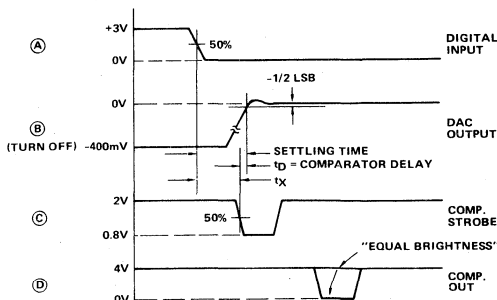

Figure 3B
As shown in Figure 3B, settling time equals t_X plus the comparator delay ($t_D = 15$ ns). To measure t_X ,
- Adjust the V_{LSB} supply for 50 percent triggering at COMP. OUT. This is indicated by traces of equal brightness on the oscilloscope display as shown in Figure 3B. Note DVM reading.
- Switch the LSB to Pulse (P).
- Measure t_X from scope as shown in Figure 3B. Settling time equals $t_X + t_D$, i.e. $t_X + 15$ ns.